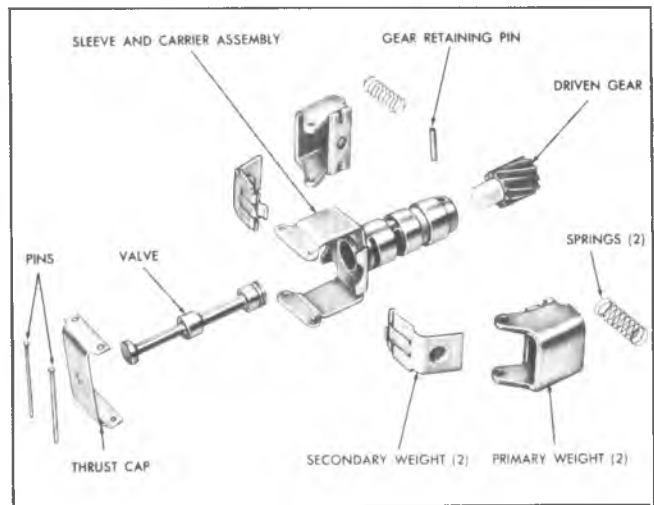

Fig. 48T--Governor--Exploded
1. Cut off one end of each governor weight pin and remove pins, governor thrust cap, governor weights, and springs. Governor weights are interchangeable from side to side and need not be identified. (Fig. 48T).